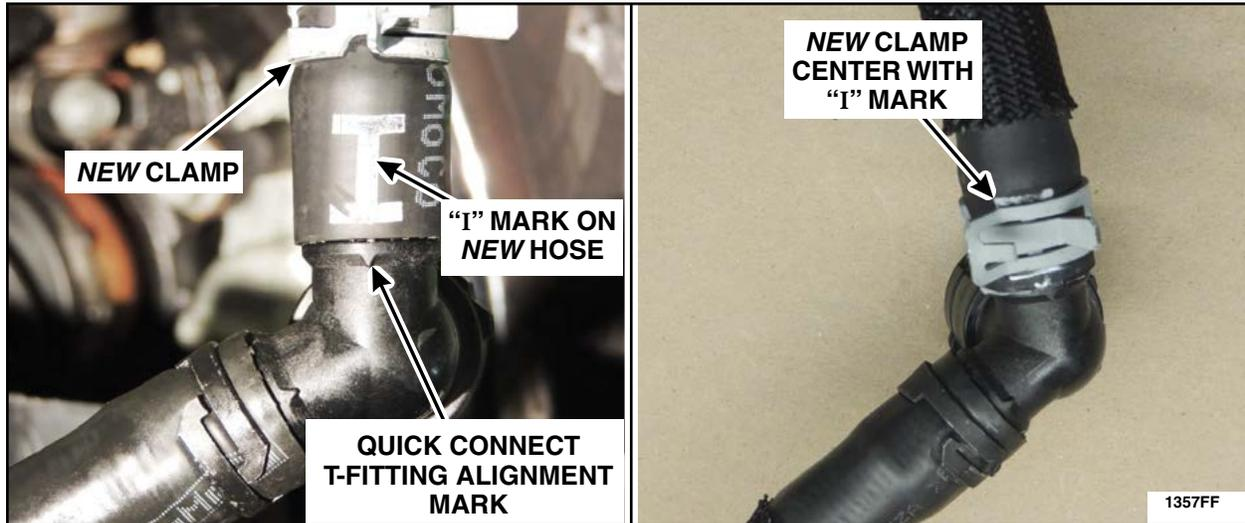

**FIGURE 16**
11. Connect the quick connect T-fitting to the coolant shutoff solenoid valve. See Figure 16.